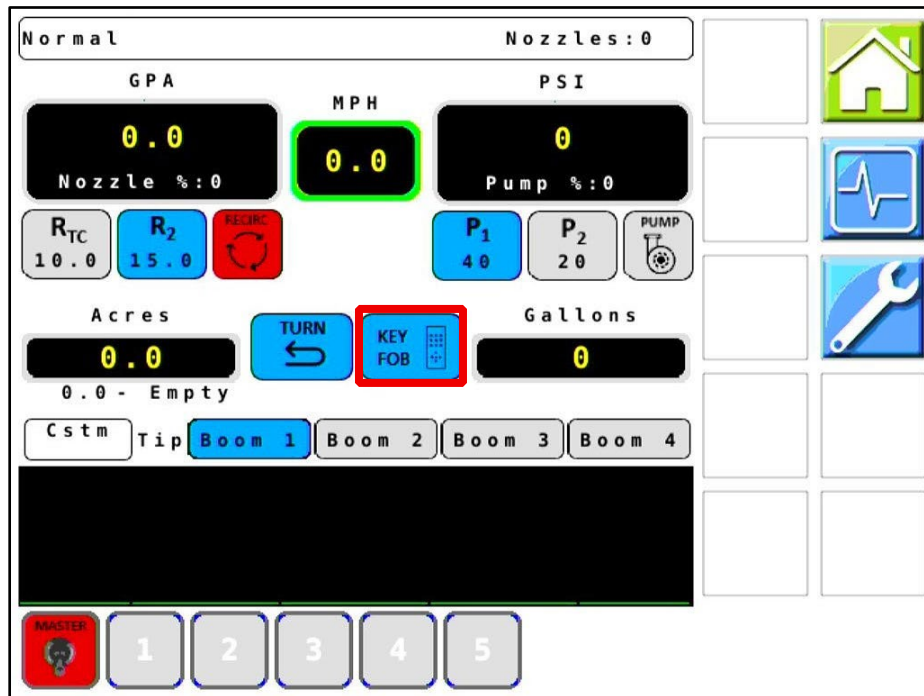

Figure 7 — Key Fob Verification
12. **Figure 7:** Tap the **Key Fob** icon to set key fob mode to **ON**.